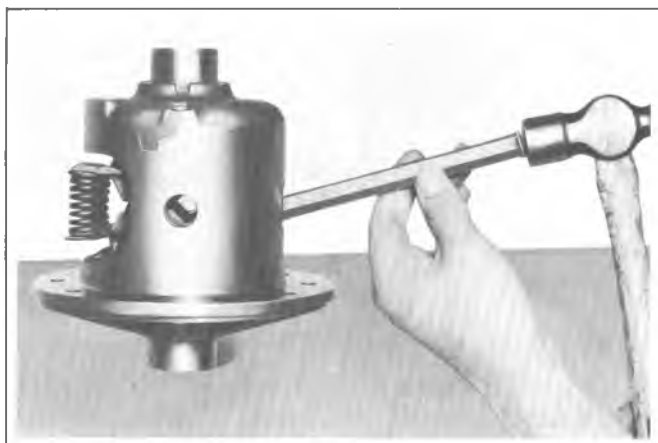
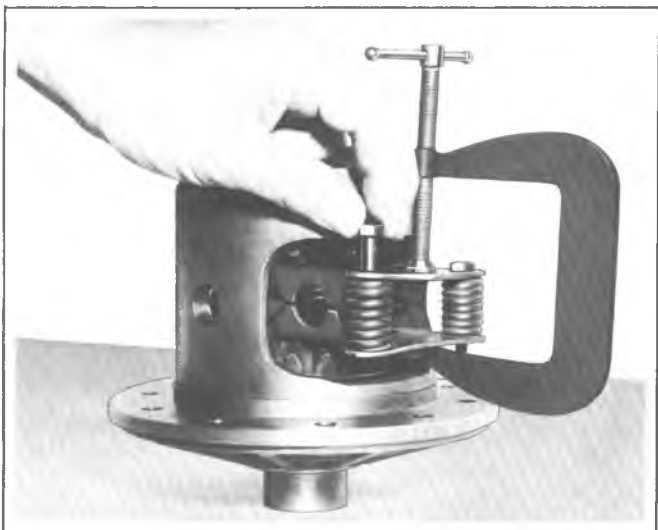

Fig. 2D--Removing Preload Spring Pack (Typical)
Fig. 3D--Installing Bolts to Retain Springs
2. **For all models except Corvette**, remove the preload spring retainer and springs by tapping on the spring retainer through the observation hole in the case. See figure 2D. Drive the spring retainer from the case sufficiently to allow insertion of a 1/4 inch bolt in each of the two front springs. Secure each bolt with a nut as in figure 3D.